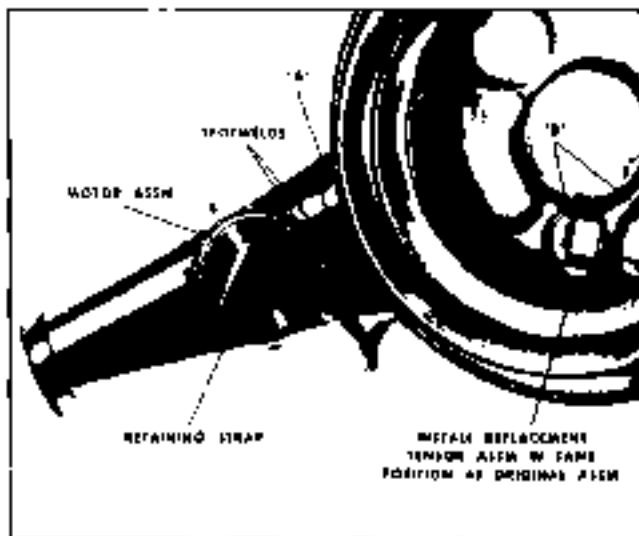

Fig. 6D-1 Therm-AC Motor and Sensor
1. Drill out two spot welds initially with a 1/16" drill, then enlarge as required to remove the retaining strap. Do not damage snorkel tube. (Fig. 6D-1).
- a. Drill a 7/64" hole in snorkel tube at point A as shown in Fig. 6D-1.
2. Support sensor at position B as shown in Fig. 6D-1 and press clip on sensor being careful not to damage sensor.